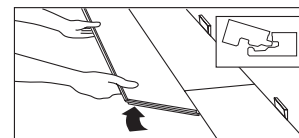

Figure 7
- Install the long end of the first board at an angle to the board in the previous row. Keep this board at its natural angle slightly raised off the subfloor (Fig. 7). Use a scrap piece of laminate to support the row if needed.